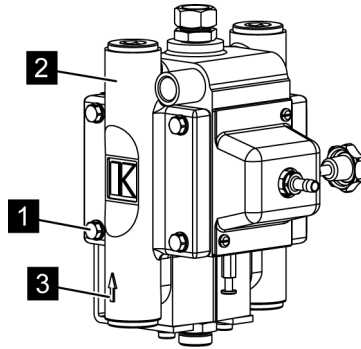

Fig. 11: Screwing the cover in place
9.  Put on the cover (Fig. 11/2), with the arrow (Fig. 11/3) pointing upwards.
10.  Lightly grease all 4 screws (Fig. 11/1) and screw tight to 20 Nm.